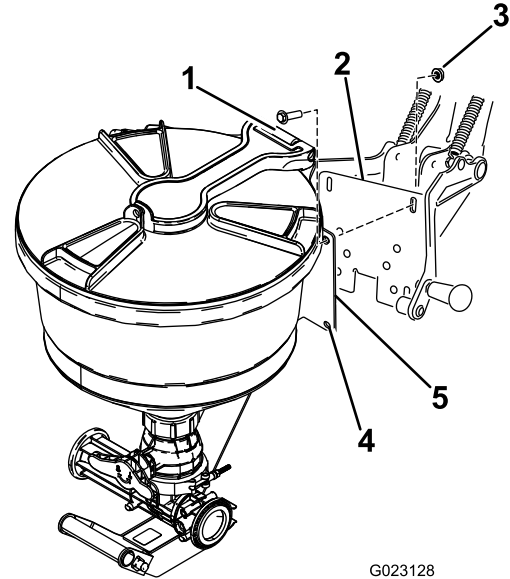

Figure 12
1. Align the holes in the eductor mount plate with the slots in the cradle support frame (Figure 12).
2. Assemble the eductor to the back plate (Figure 12) with the 4 bolts (3/8 x 1 inch) and locknuts (3/8 inch).